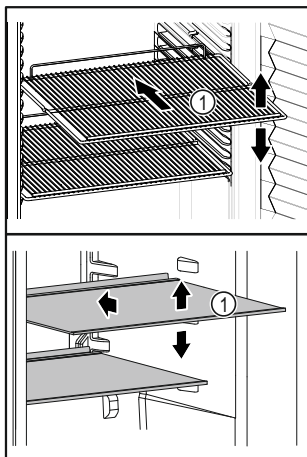

Fig. 61 Example illustration
- ☐ If storage surfaces Fig. 61 (1) are movable, adjust them according to height.